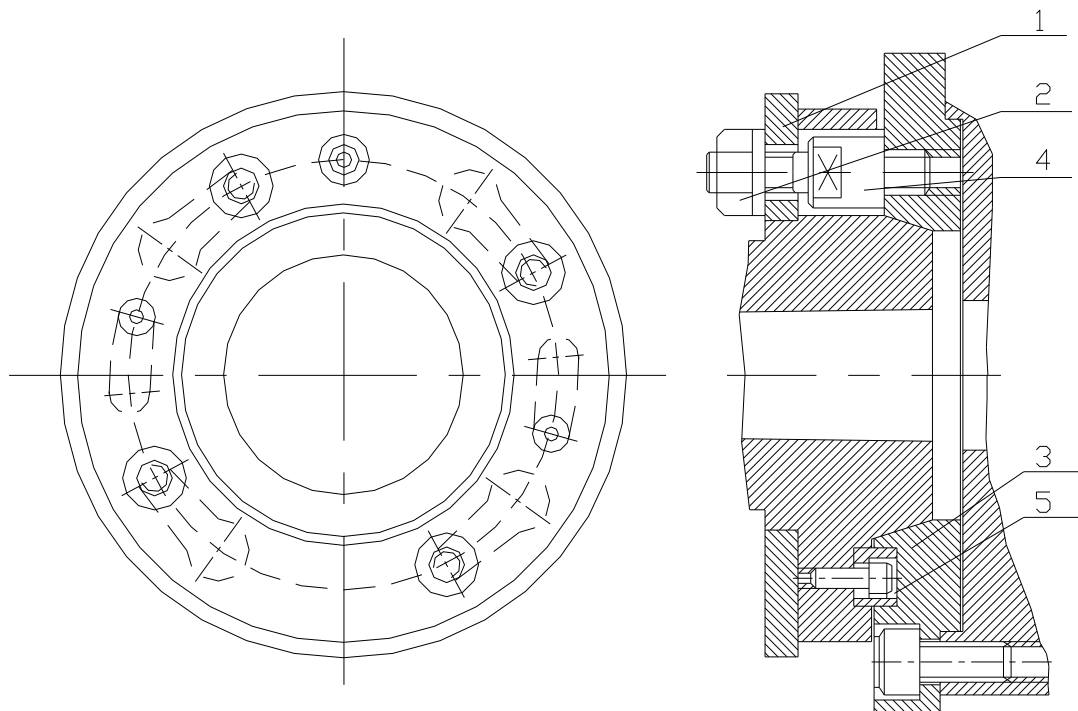

Fig. 4-13
4.7.1 MOUNTING A CHUCKING DEVICE ON SPINDLE NOSE (DIN55027/ISO702-III) FIG.4-13
When a chucking device has to be mounted on spindle nose as per Fig.4-13 turn the bayonet plate 1 clockwise (spindle forward) so that nuts 2 go through two-step hole splines of the bayonet plate. Fit the chucking device on spindle taper so that mounting bolts 4 and nuts 2 go through spindle holes and the round sleeve 5 aligns with the chucking device opening.